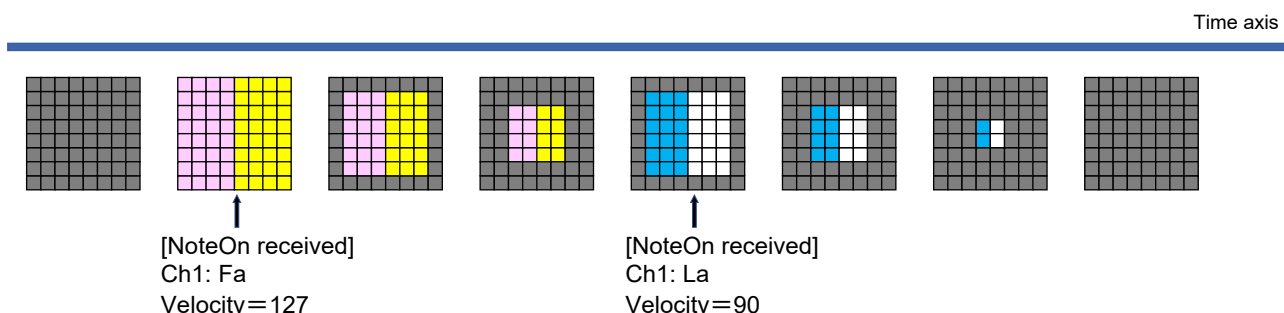

Figure 1-7 Display Example (Specific MIDI Channel Display Mode)
- As shown in Figure 1-7, colors assigned to each note are displayed each time a NoteOn (keystroke) message of the display target channel is received. The display range is gradually reduced at regular intervals.
Figure 1-7, shows that the velocity value of the “Fa#” NoteOn message is the maximum value and therefore, the display starts from the maximum size. The “La#” NoteOn message contains a smaller velocity value, and therefore, the display starts from the value smaller by one frame size..